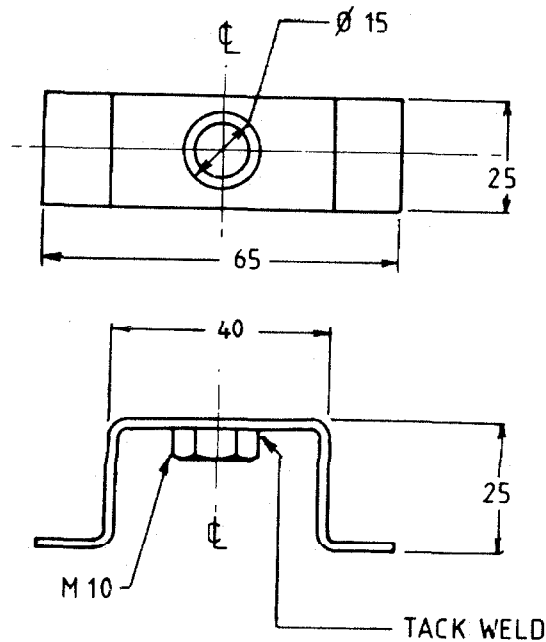

FIG 1 - STOP BOLT BRACKET ASSEMBLY
- b. Manufacture the stop bolt bracket as shown in Fig 1 using Table 1, items 1 and 3.